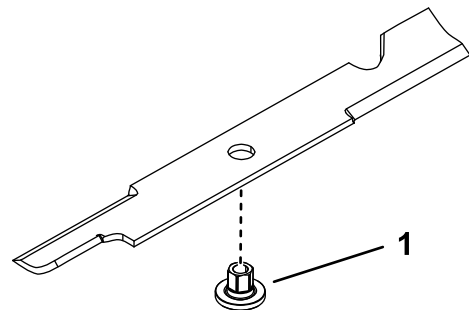

Figure 114
1. Install the bushing through the blade with the bushing flange on the bottom (grass) side of the blade (Figure 114).